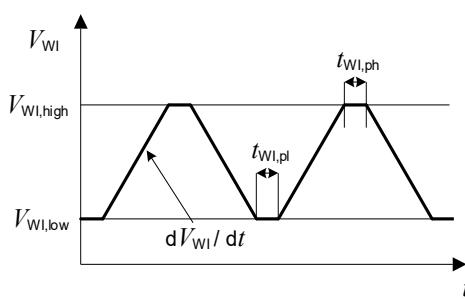

Figure 9 Test pulses watchdog input WI
A positive edge at the watchdog input WI triggers the watchdog. Because of the integrated high pass filter, the amplitude and slope of the signal at WI pin must comply with the values in Watchdog input WI. For details on the test pulse applied, see Figure 9.
1) For details on the test pulse applied, see Figure 9.